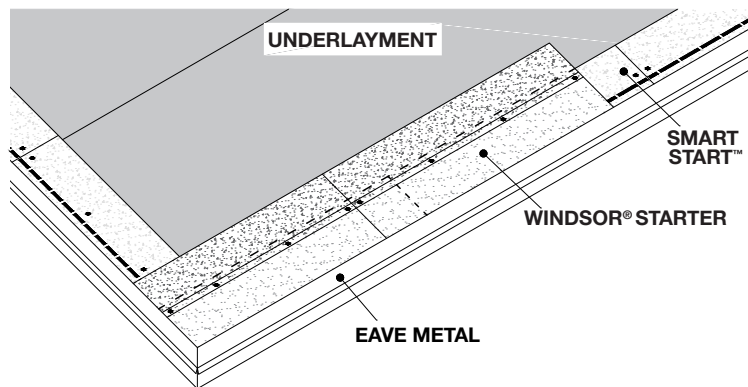

Figure 5 - Application of Windsor® Starter Shingles over Smart Start® at the Eave Edge of Roof
Fasten with four (4) nails in-between the paint lines, approximately 1" (25 mm) from each side of the starter and the remaining two (2) evenly spaced on the same line. Continue across the roof, butting the shingles loosely together to prevent buckling, and fasten in place. (See Figure 5)